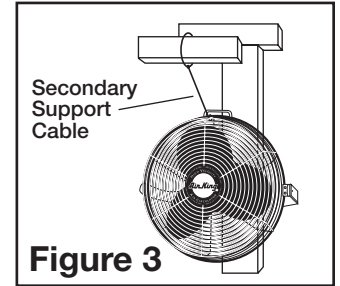

Figure 3
- Wrap the other end of the cable around a secure building joist, truss, or other support near the fan (Figure 3). Take up all excess slack in the cable.